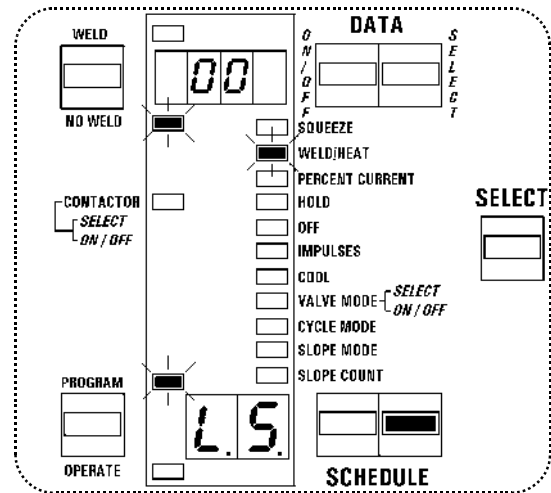

Figure 7.4 Program last step
3. Press the SCHEDULE push buttons to find [L.5.] in the SCHEDULE display, as shown on Figure 7.4.